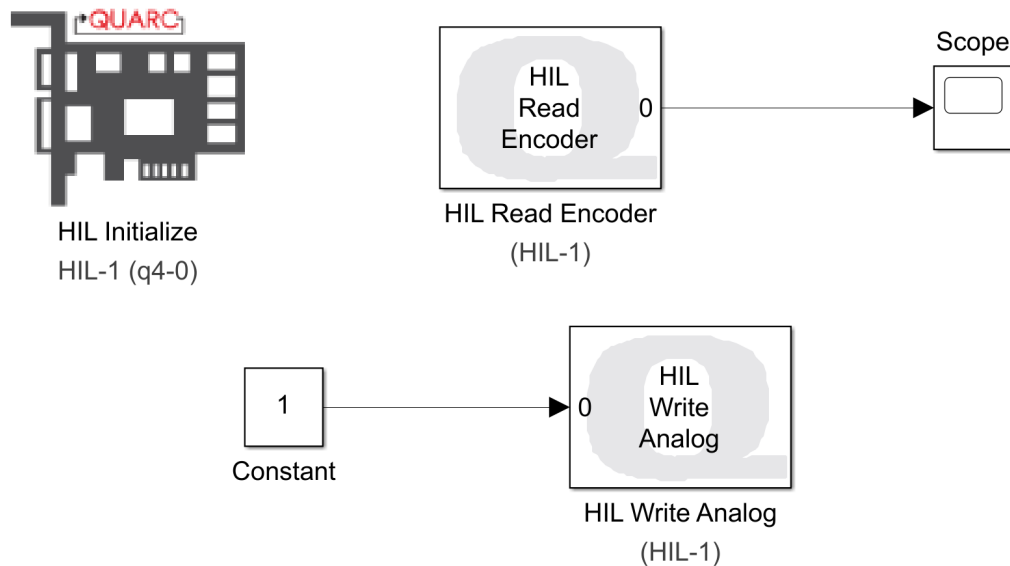

Figure 8: Simple Model
8. Connect these blocks as depicted in Figure 8. In this example, we place a simple constant output and a display for the encoder. *For the purposes of this example, do not output more than  $\pm 2.5$  volts to the cart to prevent uncontrolled motion.*